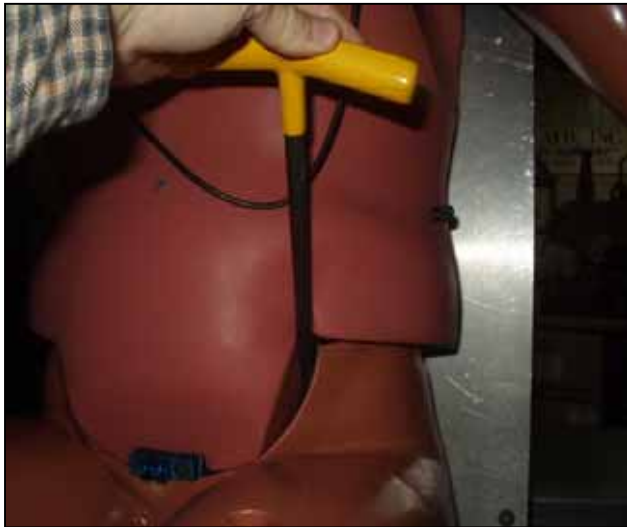

Figure 31 - Femur Joint Setting
3. Adjust femur ball set screw (as shown in Figure 31) so the leg is held suspended at one G.